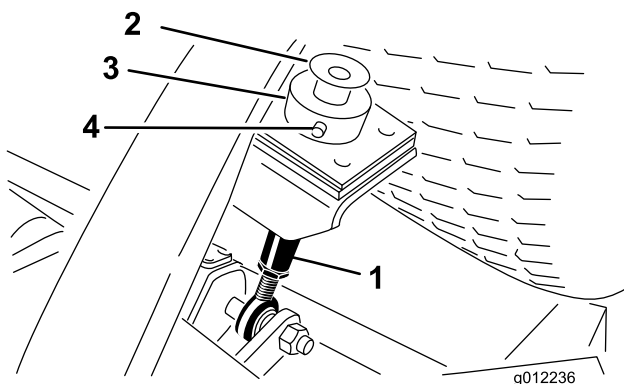

Figure 25
2. Remove the bolt and washer mounted to the top of each height of cut rod (Figure 25).
3. Remove the hairpin and clevis pin securing the height of cut collar to the height of cut rod on the rear of the cutting unit (Figure 25). Remove the height of cut collar.